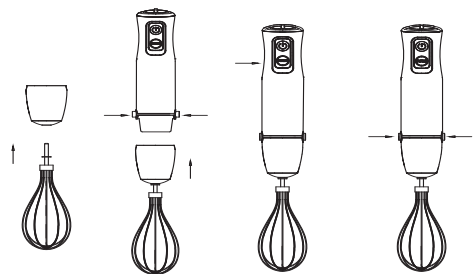

Abb. 3
- Insert the whisk attachment (7) into the whisk gear (6).
- Insert the whisk gear (6) into the motor unit, make sure that the gear (6) and the whisk (7) are fixed properly (fig. 3).
- Immerse the whisk attachment (7) into a suitable bowl with food. You can put the foodstuffs into the cup (11).
- To switch the unit on, press and hold down the button (4) «».
- When you press and hold the button (4) «» you can control the attachment rotation speed
- by turning the control knob (5).
- For operation at the maximal rotation speed, press and hold down the button (3) «TURBO».
- After you finish using the unit, disconnect the power plug from the mains socket, disconnect the whisk gear (6) from the motor unit.
- Remove the whisk attachment (7) from the gear (6).